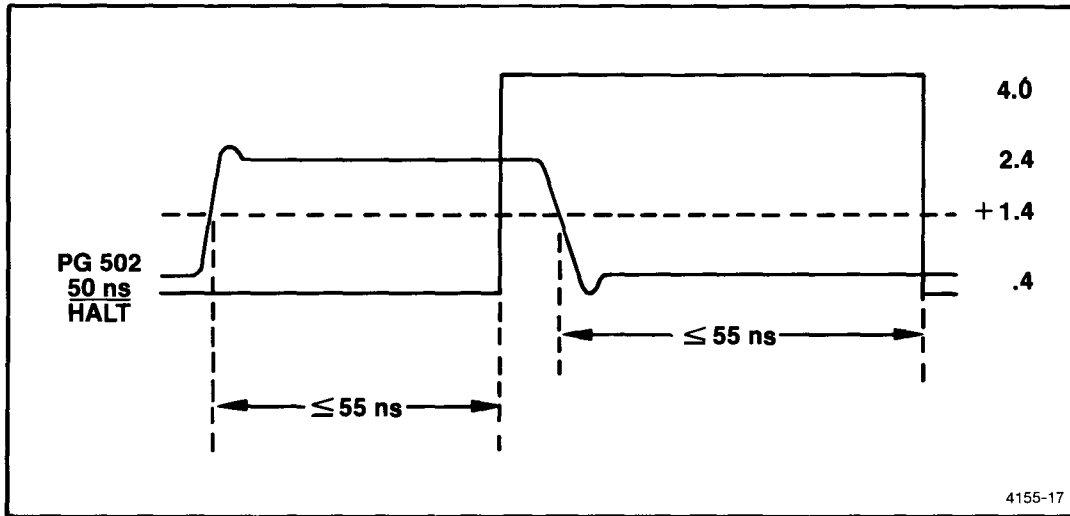

Figure 5-6. HALT (L) delay from 40-pin plug to microprocessor.
3. Connect the PG 502 output across ground (pin 1) and HALT (L) (pin 40) of the 40-pin wire-wrap socket.
13. Refer to Figure 5-6.